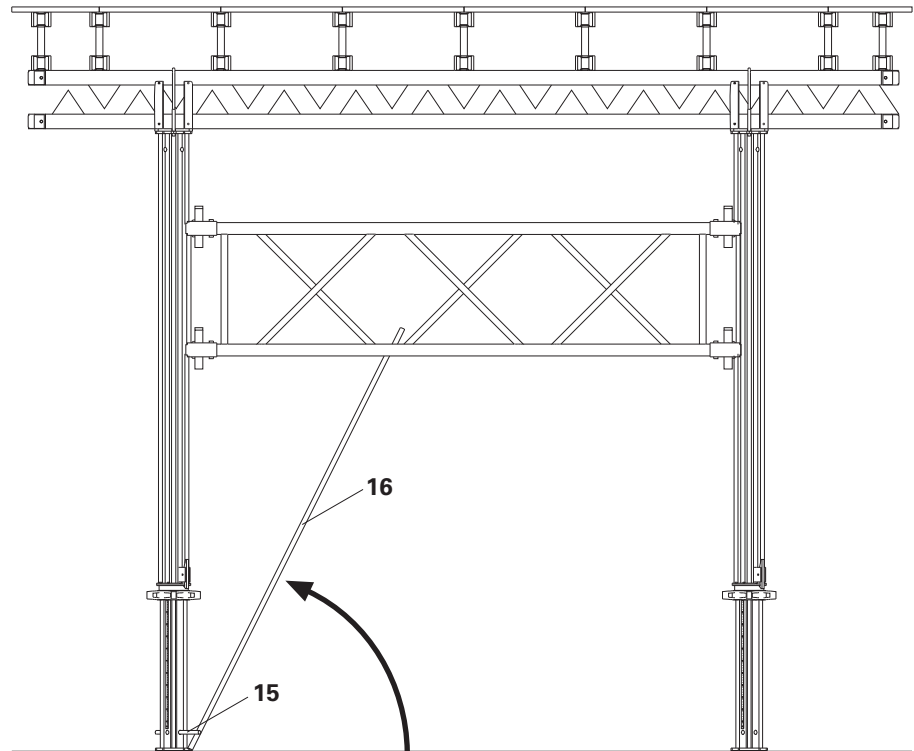

Fig. 46
1. Insert assembly lever (15) into the bottom drilled holes of the MULTIPROP props.
2. Move the slab table with the pole (16).
- (Fig. 46)